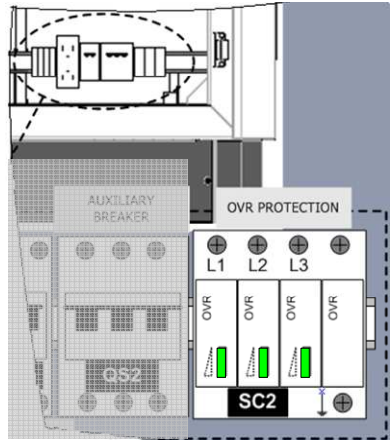
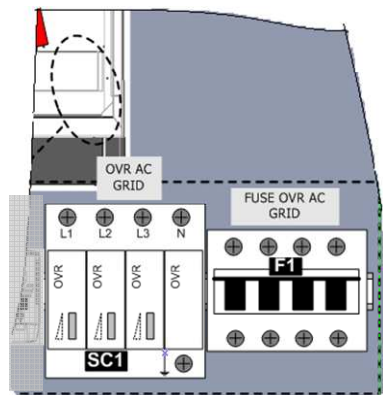

Figure 17-8: OVR Auxiliary VAC Devices
Figure 17-9: OVR VAC Grid
Check that the inspection windows are not coloured in red. If so, replace the faulty cartridges with others of the same type (Figure 17-8 and Figure 17-9).
- ➔ It is necessary to check the fuses in the fuse boxes (F1) of Figure 17-9.